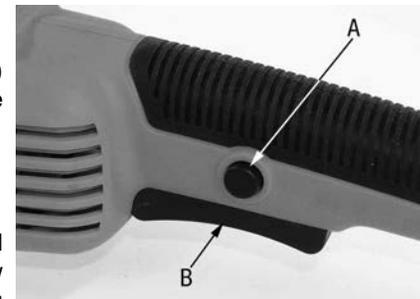

FIGURE 3
To turn the tool on, first the safety lock button (A) Fig.3 must be depressed, then depress the trigger (B). Release the trigger to stop the tool.